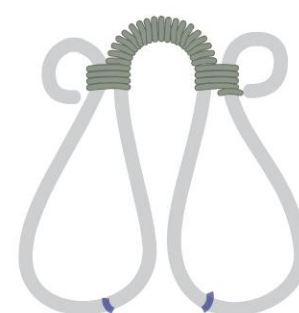

figure 5
**Trim** both ends of the wire and gently squeeze the ends down with chain-nose pliers (Figure 5).